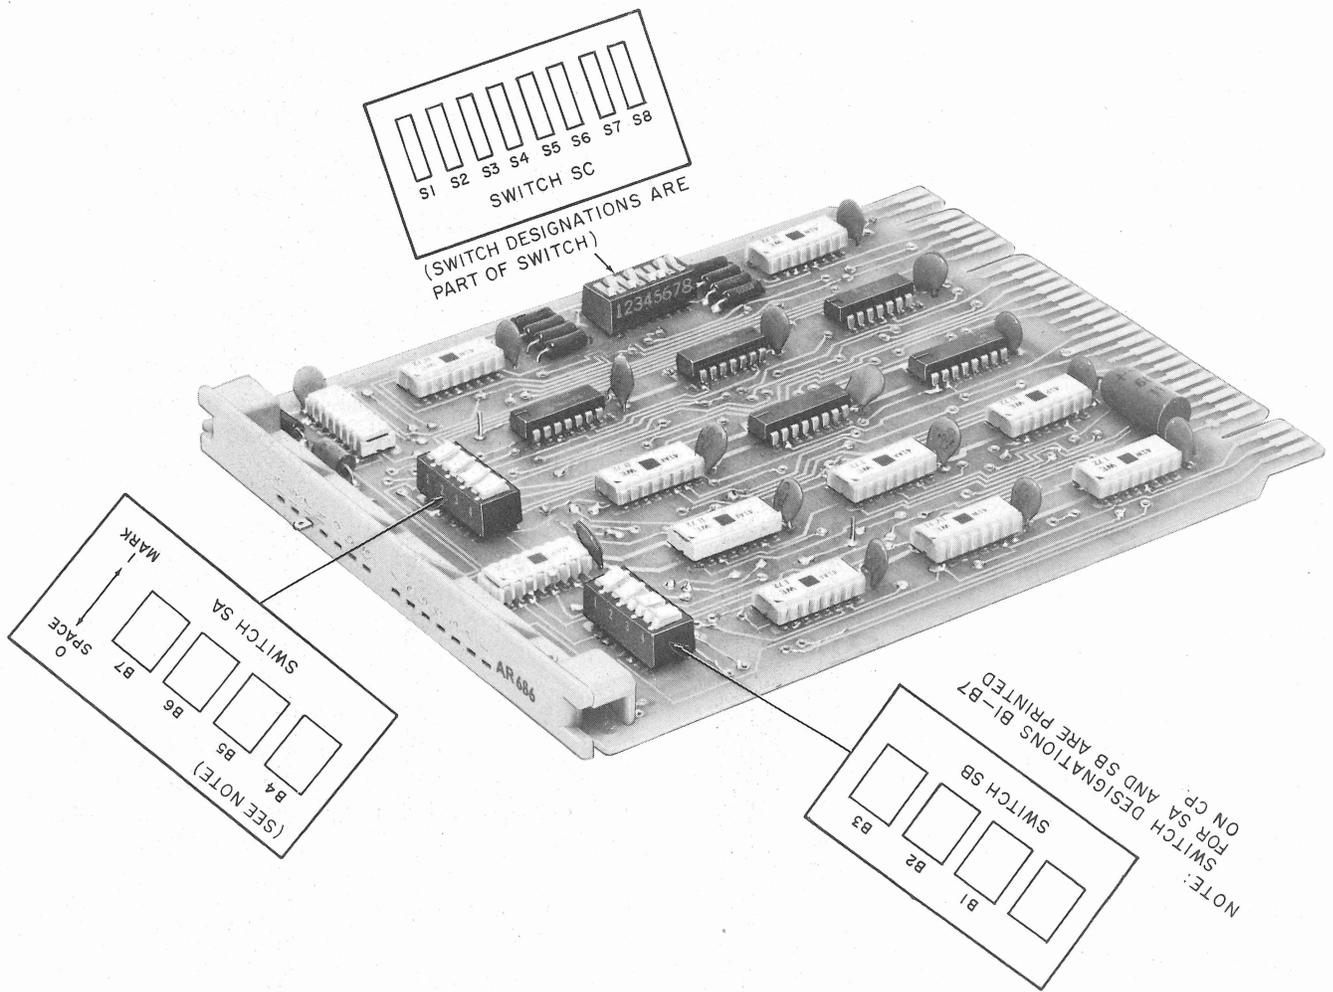

Fig. 7—AR686 CP Switch Location and Designation
4.01 The AR686 CP (Fig. 7) is discretely encoded with a SCC so that the station can recognize that it is being polled by the computer switcher.
- (2) Refer to Fig. 7 for the location of the SA and SB switches. The contact designation and switch setting required to obtain a mark or space are shown in Fig. 7.
- (3) Encode bit 1 by depressing the side of the B1 rocker to give the required mark or space. (See Fig. 7.)
- (4) Encode the remaining bits (2 through 7) by setting the switch of the corresponding number to the required mark or space position.
- (2) Refer to Fig. 7 for the location of the SC switch and contact designations.